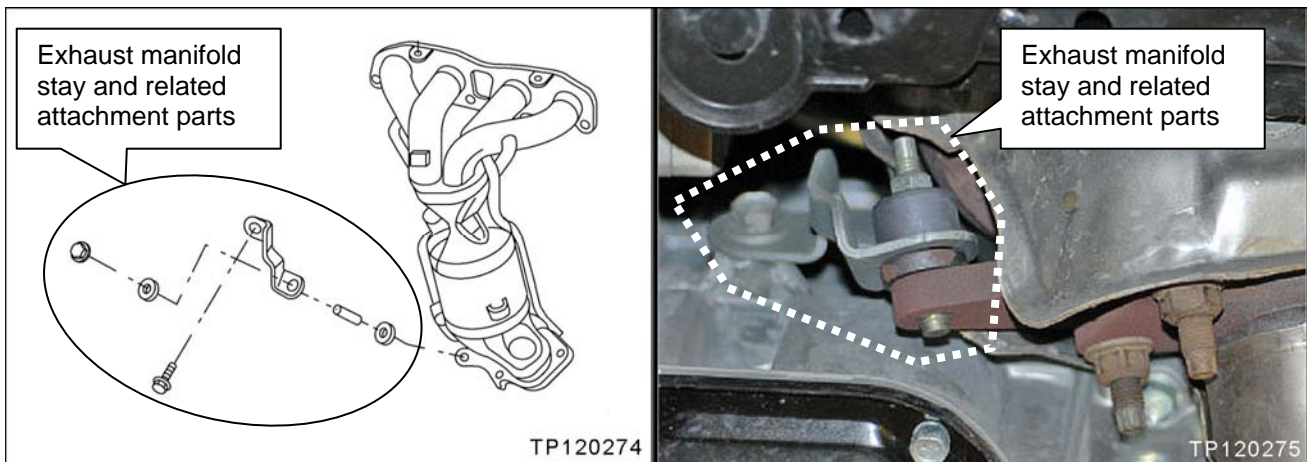

Figure S1
1. Remove the exhaust manifold stay and the related attachment parts (see Figure S1).